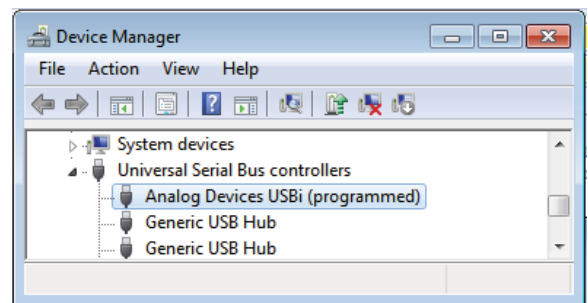

Figure 8. Confirming Driver Installation Using the Device Manager
- In the Windows **Device Manager**, under the **Universal Serial Bus controllers** section, check that **Analog Devices USBi (programmed)** is displayed (see Figure 8).